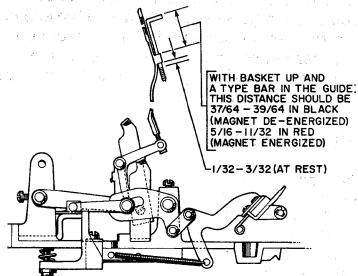

Figure 3
2. Adjust the clevis of the ribbon guide so that the lower surface of the retaining ears of the ribbon guide are from $1/32$ " to $3/32$ " above the bottom surface of the segment guide plate with the ribbon guide lever resting on the lower stop (Figure 3).